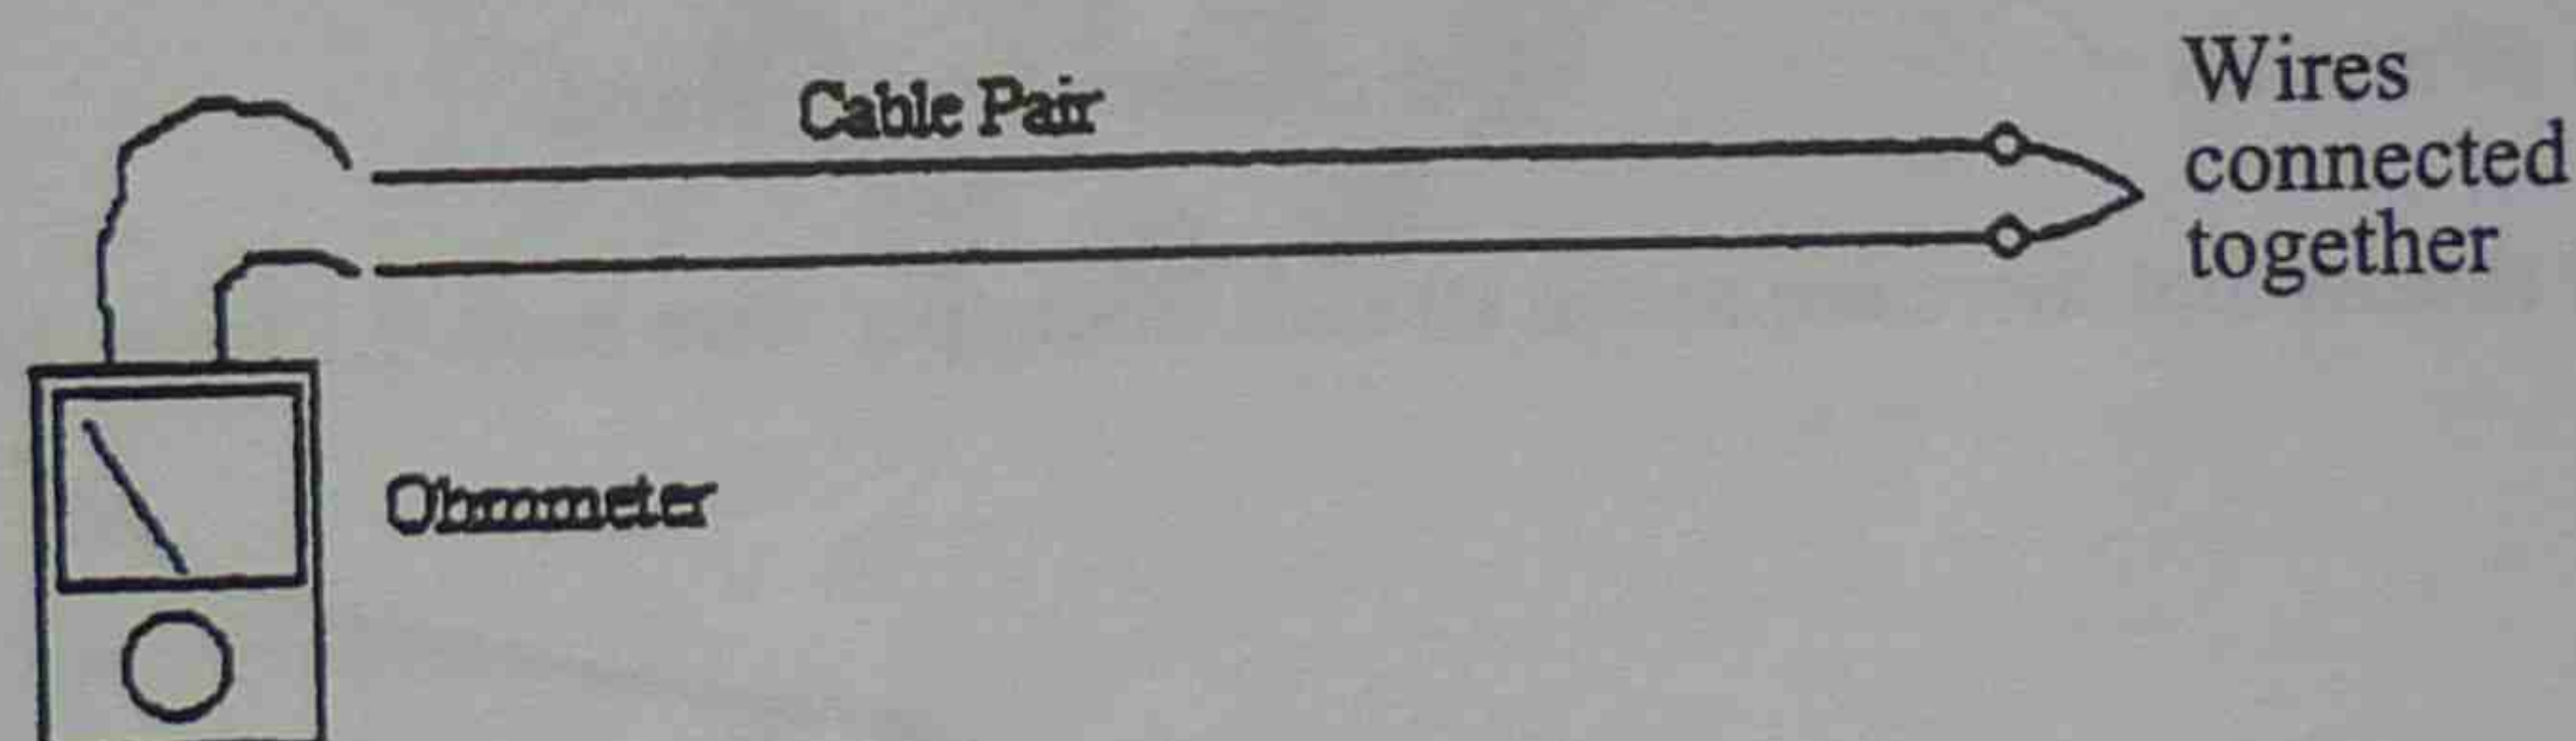

Figure 14: Measuring resistance of a cable pair.
Resistance is measured in ohms and the symbol for ohms is Ω (omega). A quantity of resistance is signified by the symbol R. i.e. Resistance (R) measured in ohms (Ω). Thicker wire is often used to transmit signals over long distances. Cable resistance is specified in ohms per loop kilometre (Ω/km) i.e. for a pair of wires connected together at one end and measured at the other end with an ohmmeter. (See figure 14).